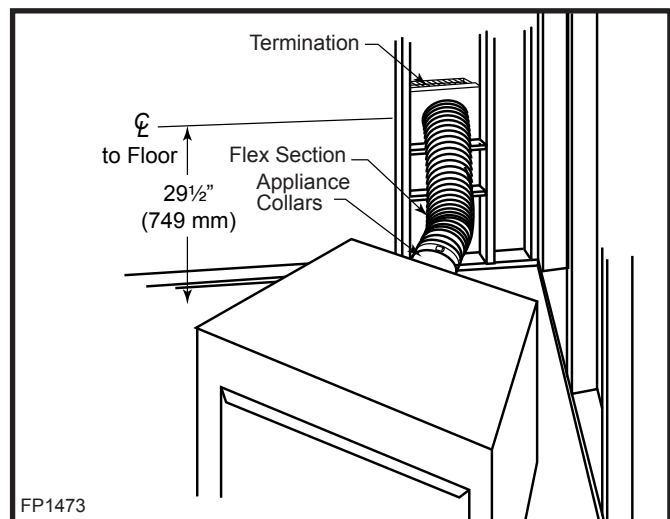

Fig. 16 Grasp the vent pipe close to the collar and bend to 45° angle. Do not exceed 45°.
NOTE: Under no circumstances can ridged pipe or a rigid 45° elbow be used. The 7TCDV45KT must be used in a corner installation. The corner placement dimensions on Page 4 of the manual must be adhered to! Figures 16 & 18 show general installations. Refer to instructions below for a detailed description of installation.
1. Determine where the termination is to be installed. **Locate the center of the hole 29½" (749 mm) off the floor. (Fig. 16)**